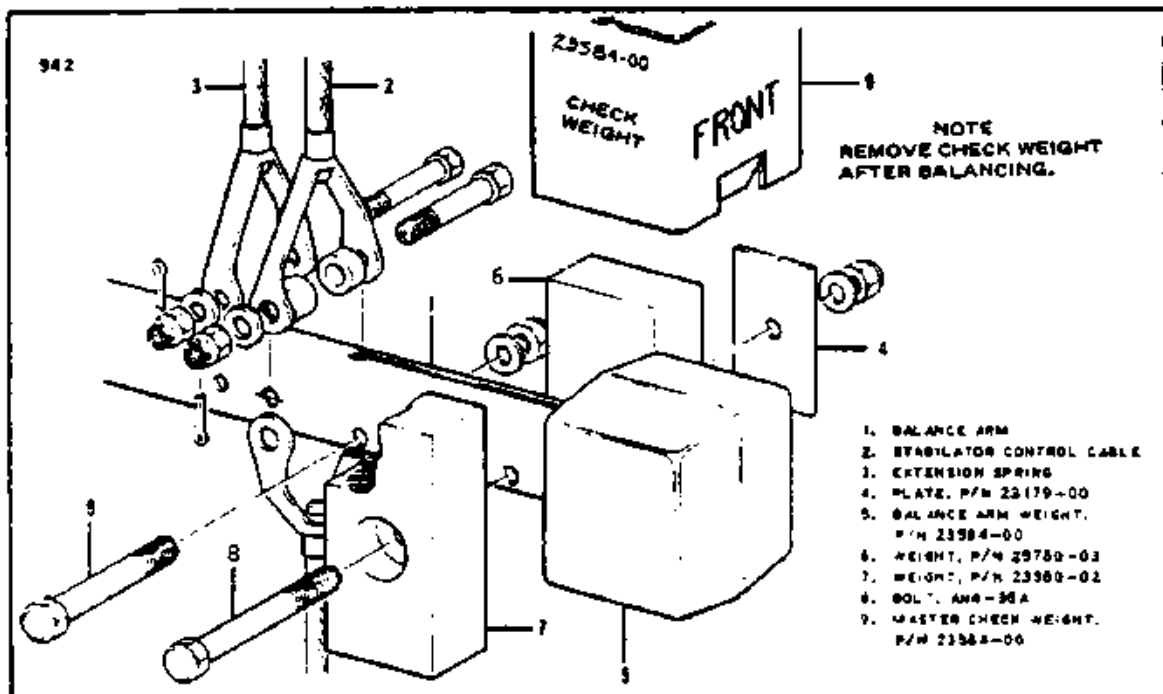

Figure 4-12. Balancing Stabilator
**4-50. CHECKING AND BALANCING STABILATOR.** (Serial Nos. 30-853, 30-902 to 30-1716 inclusive and 30-1718 to 30-1744 inclusive.) (Refer to Figure 4-12.)
b. Stabilator installation must be complete before balancing, including tabs and paint. Stabilator control cables (2 and 3) must be disconnected from the stabilator balance arm (1) and the tab actuator arm must be disconnected from the stabilator tab horn during balancing. Hardware used to connect the extension spring cable (3) and stabilator control cables (2) should be removed. Balance weights (7) (P/N 25780-02) and (6) (P/N 25780-03) must be removed from the balance arm (1). A bolt (AN4-16A) with nut must be installed in place of the bolt (8) (AN4-36A). The aft bolt holding the balance arm weight must remain installed. A small piece of tape should be used to hold tabs neutral with stabilator. It is important to have the stabilator free to rotate with minimum of frictional resistance. Refer to NOTE in Paragraph 4-48 to obtain minimum frictional resistance.
e. After balancing is accomplished, the check weight should be removed and the front attachment bolt connecting the stabilator balance weight to the stabilator balance arm should be removed and weights (P/N 25780-02 and 25780-03) and bolt (AN4-36A) and stabilator balance weight plates (P/N 23179-00) should be installed at this attachment point. Stabilator balance weight (P/N 25780-02) should be installed on the right side of the stabilator balance arm and stabilator balance weight (P/N 25780-03) and stabilator balance weight plates (P/N 23179-00) shall be installed on the left side of the stabilator balance arm. (Refer to Figure 4-12.)